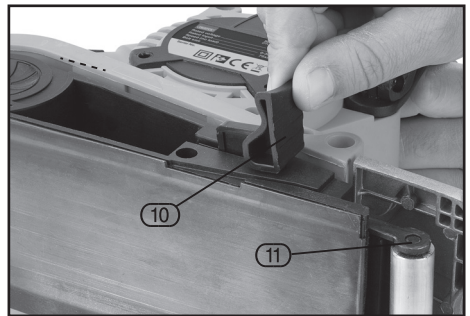

FIG.2
8.2 FITTING OR REPLACING THE SANDING BELT – FIGS. 2 – 3